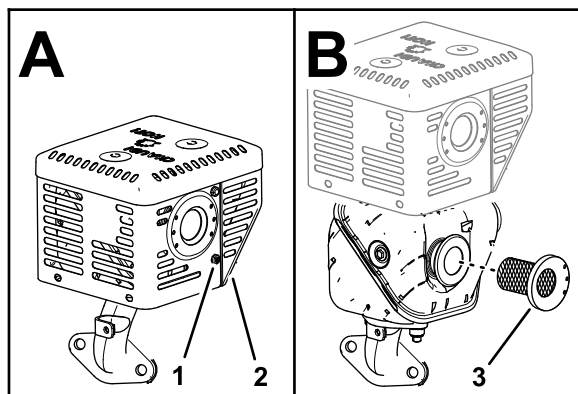

Figure 84
2. Remove the screws that secure the heat shield to the muffler, and remove the heat shield (Figure 84).
3. Remove the spark arrester screen and clean it (Figure 84).
4. Assemble the spark arrester screen to the muffler (Figure 84).